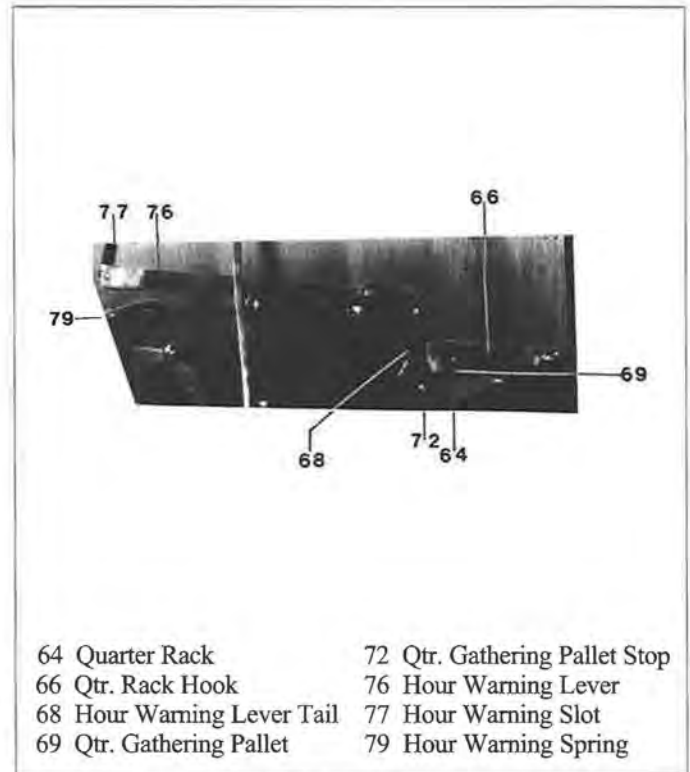

Figure 33.2. Hour Warning Control
17. Installation of the strike controls (Figures 33.2 and 33.3).